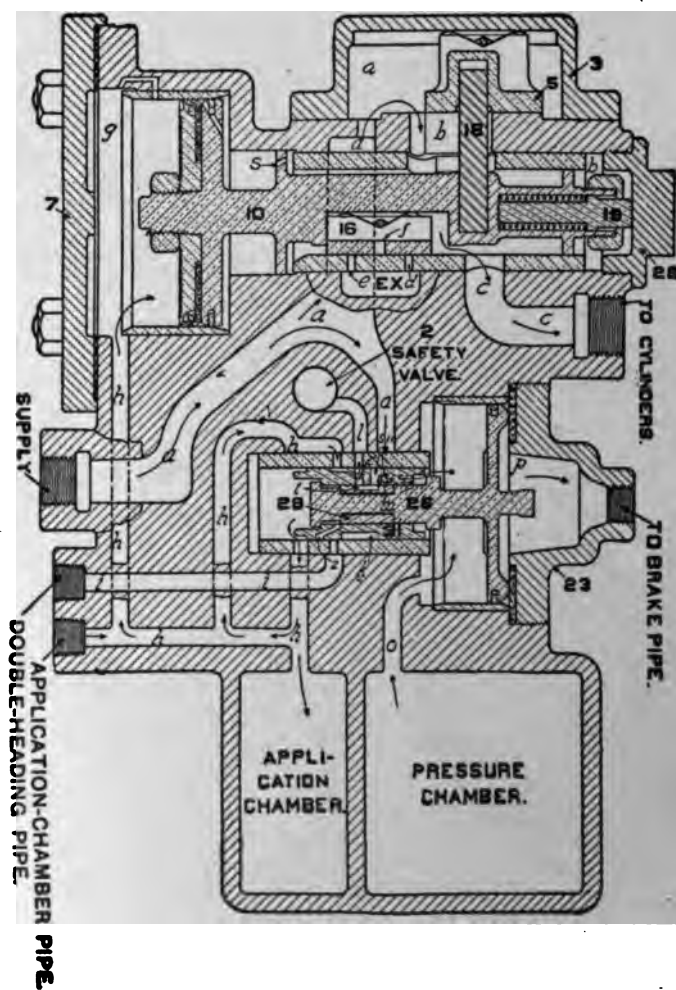

FIG. 275. EMERGENCY
**EMERGENCY.** When a sudden and heavy brake-pipe reduction is made, as in an emergency application, the pressure in the pressure chamber forces application piston 26 to the right until it strikes against the leather gasket beneath head 23 as shown in Fig. 275. This movement causes slide valve 31 to uncover port *h* in the bush, making a large opening from the *pressure chamber* to the *application chamber*, so that they quickly become equalized. In the emergency position of the automatic brake valve, the volume of the equalizing reservoir is connected to that of the application chamber. This reservoir volume together with that of the pressure chamber at 70 pounds pressure equalizes into the application chamber at about 60 pounds. The dotted port *m* in the slide valve registers with port *n* in the seat connecting with supply passage *a*, allowing air from the main reservoir to enter the slide valve and application chambers. A cavity in